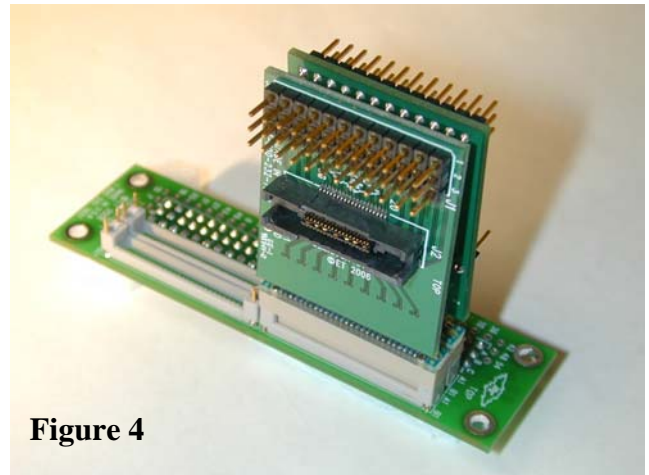

Figure 4
4. Plug the breakout card into the base. The card can be oriented in either direction. Be sure to account for this when mapping the pins to your logic analyzer. (Figure 4)